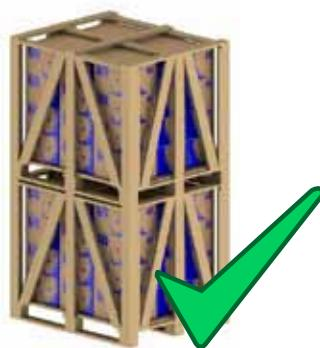
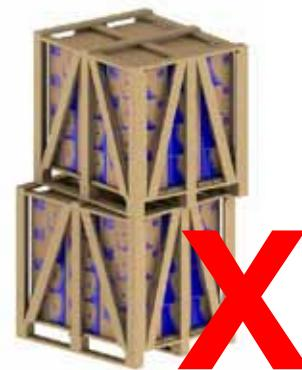

Figure 5-1 – Correct stacking
Figure 5-2 – Incorrect stacking
- 2) Align the packaging correctly (see Figure 5-1 and Figure 5-2).